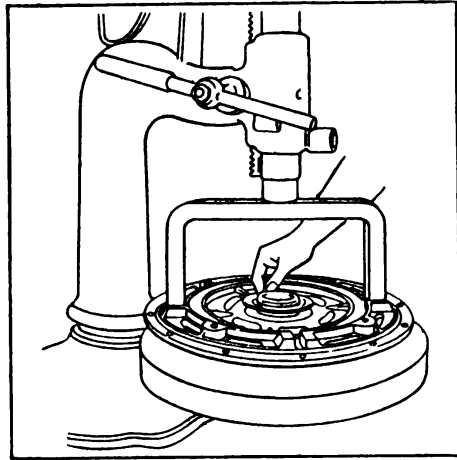

Figure 409
Check the fulcrum rings (113) for flatness, or excessive wear. Select two good fulcrum rings and place one of them, cupped side up, over the sleeve (116). Figure 409.